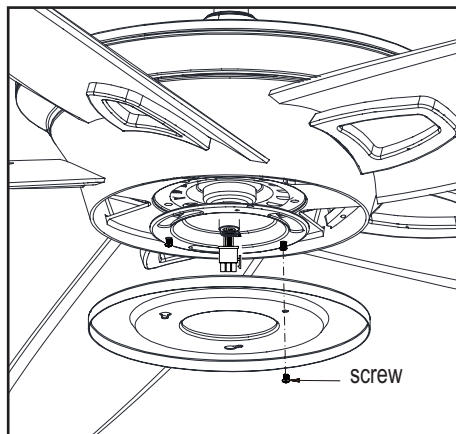

Figure 14
1. Remove one screw from the black bracket below the fan motor assembly. Loosen, but do not remove the other two screws. Align the key hole slots in the switch cup adaptor with the two screws in the black bracket. (Figure 14)
2. Turn the switch cup adaptor clockwise until the two screws are situated in the narrow end of the keyholes. Re-install the one screw that was removed in step 1. Tighten all three screws firmly. (Figure 14)